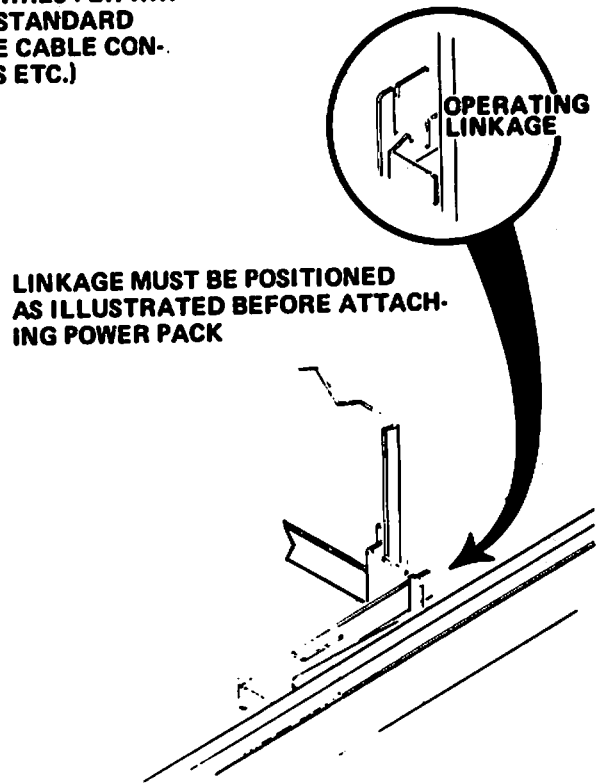

FIGURE 13. ALARM SYSTEM LINKAGE
1. Be sure that alarm latch is set correctly at front of cabinet. (See Figure 13).